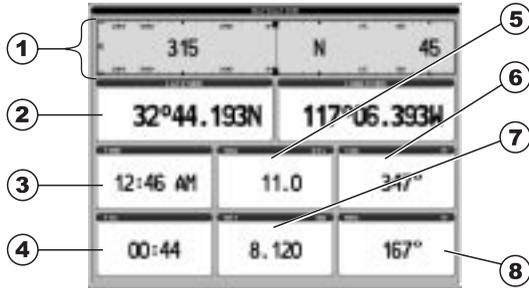
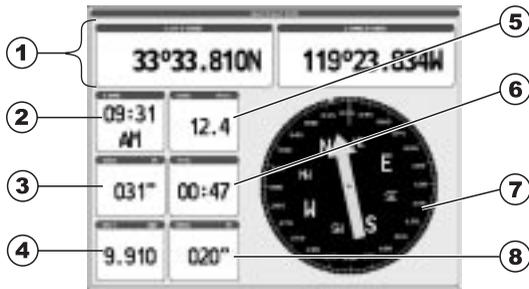

Figure 3.1 - Navigation Data page with Compass Tape
Figure 3.1a - Navigation Data page with Compass Rose
To customize Navigation page refer to Note on Par. 2.17.0. For Navigation page with Compass Tape (see Fig. 3.1), the page shows a compass ruler, fixed position and the most relevant navigation information. Compass ruler showing Course Over Ground and Bearing to destination (1) and Lat/Lon (2) fields are fixed fields and cannot be changed. The last six fields (3, 4, 5, 6, 7, 8) are selectable. The default values are DST, GRG, TTG, XTE, SOG, and COG. These data fields can be changed, refer to section 2.18. Instead when Compass Rose is selected, the Navigation page shows the Comapss Rose on the right half side of the page, see following Fig. 3.1a.
- ① Compass Tape
- ② Fix position
- ③ Time
- ④ Time To Go
- ⑤ Speed Over Ground
- ⑥ Course Over Ground
- ⑦ Distance
- ⑧ Bearing